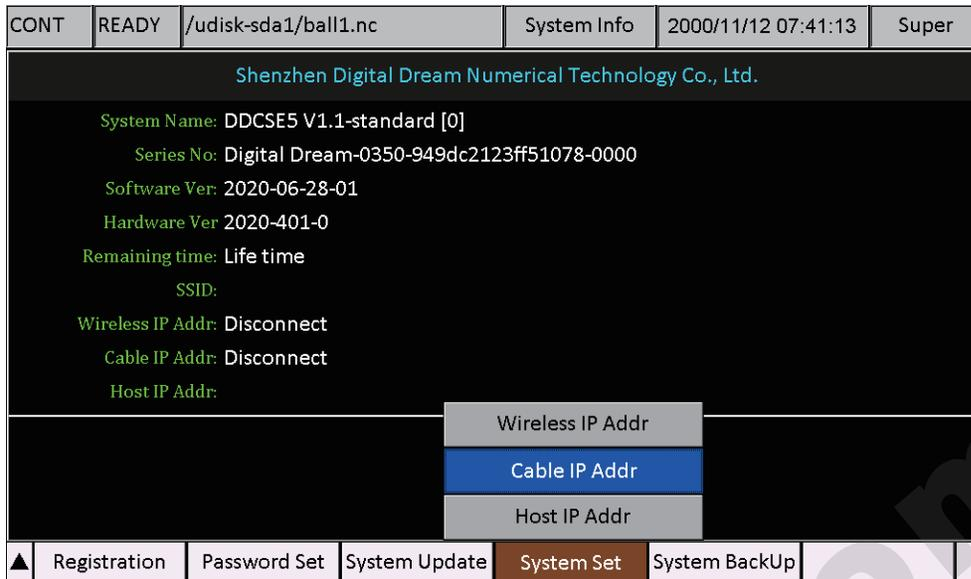

Figure 22 Cable IP Address
- 3) Press Enter and move down to “Cable IP Addr”,it shows as Figure 22 shows;